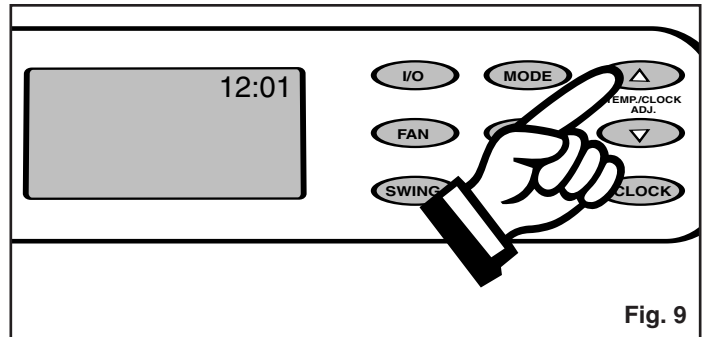

Fig. 9
2) Push either the Δ or ∇ key pad, to enter the correct time of day. Each depression of the key pad will increase or decrease the time of day setting (1 minute increments). *Fig. 9.*